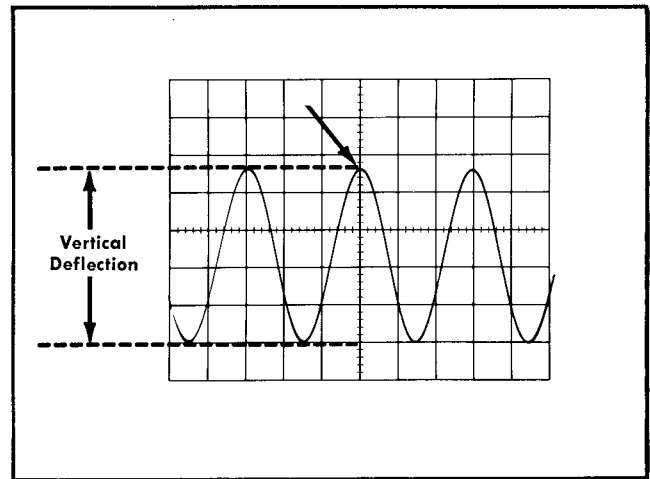

Fig. 2-1. Measuring the peak-to-peak voltage of a waveform.
6. Turn the POSITION control so that the lower portion of the waveform coincides with one of the graticule lines below the centerline. With the time-base Position control, move the display so one of the upper peaks lies near the vertical centerline (see Fig. 2-1).
As an example of this method of measurement, assume that the peak-to-peak vertical deflection is 4.6 divisions (see Fig. 2-1) using a $10\times$ probe and a VOLTS/DIV setting of .5. Using the formula: